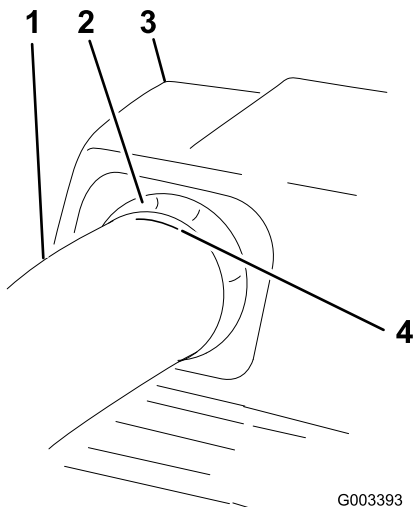

Figure 25
7. Once the 19 mm (3/4 inch) measurement has been achieved, mark the upper tube on the outside where the rubber seal protrudes out (Figure 25).
11. Check to make sure that the mark from Figure 25 is still in place.